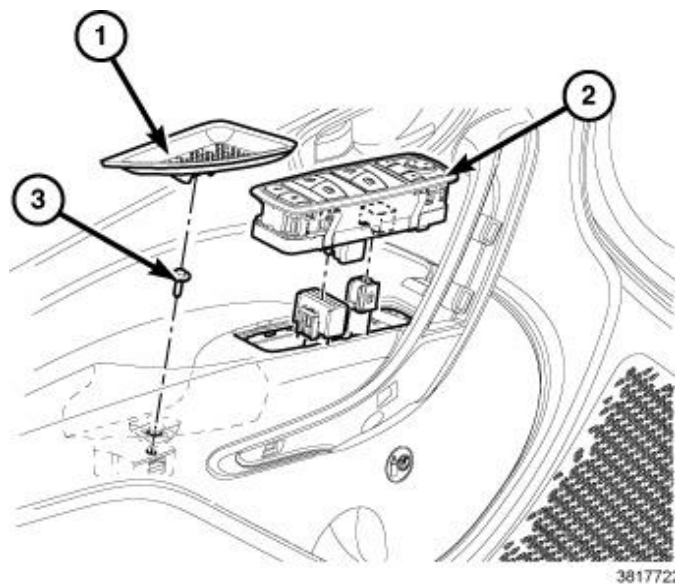

Fig. 15 Window Switch And Liner
39. Connect and install the window switch (2) to the door (Fig. 15).
40. Install the fastener (3) securing the door trim panel to the carrier plate. Tighten the fastener securely (Fig. 15).
41. Install the liner (1) into the door pull handle cavity (Fig. 15).